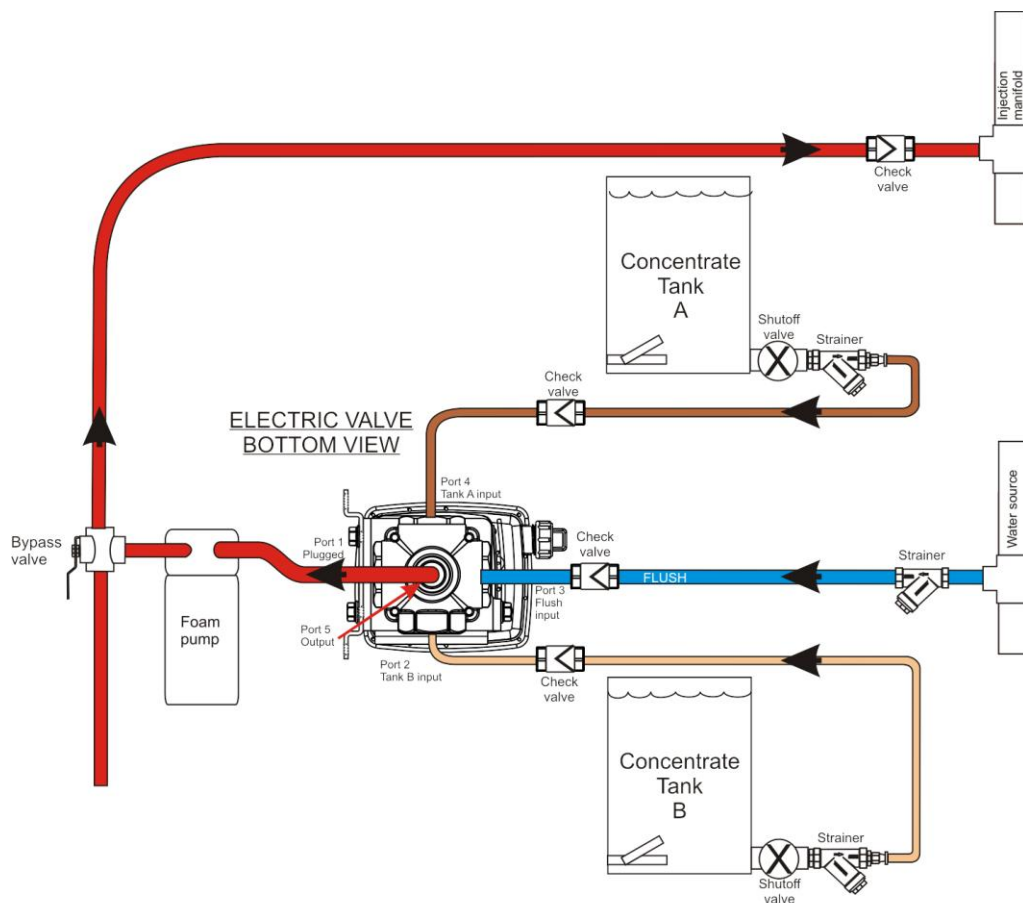

Figure 8 Flush Valve Plumbing Diagram
6. All plumbing should be vacuum / pressure rated for 23 in. Hg vacuum (584 mm Hg) and 50 psi (3 BARS) pressure. Refer to Figure 8 for installation schematic.